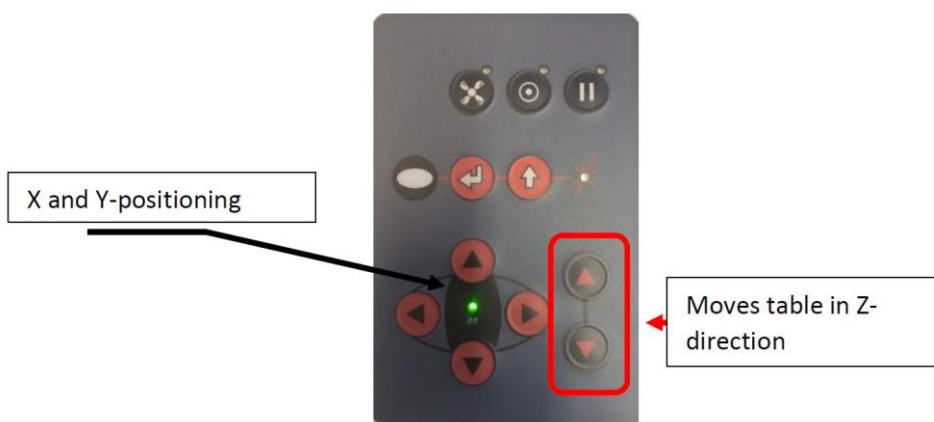

Fig 1: Keypad, buttons for adjusting table height marked in the picture with red.
3. **Before cutting the laser must be focused.** Place the material you are using on laser's work surface. You can find tape, weights etc. from the metal cabinet next to the laser happens using the cutter's keypad. (Fig. 1).